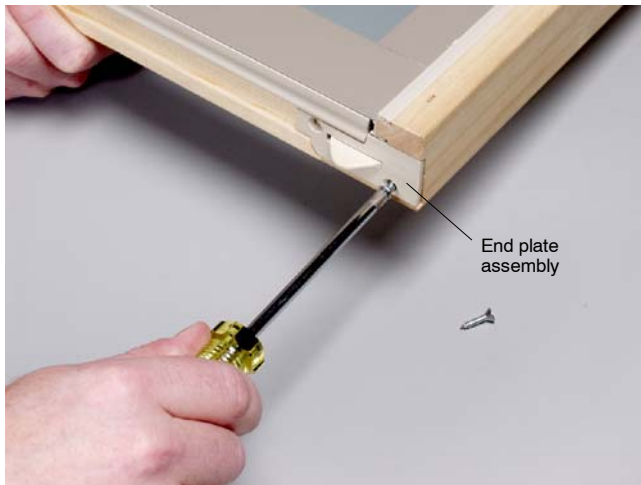

Figure 3-Removing end plate assembly
3. Remove the screws fastening the end plate assemblies to the sash. Remove both assemblies and set aside. See figure 3.